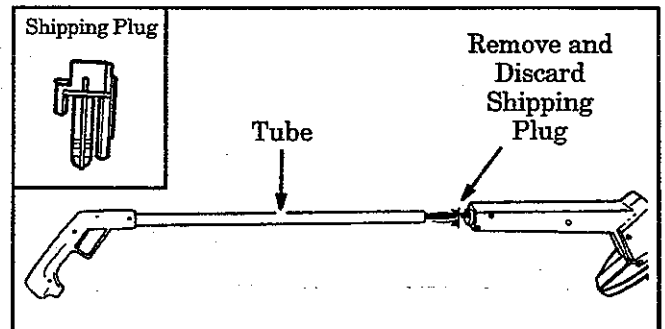

Figure 1
1. Remove and discard the shipping plug found in the end of the tube. Figure 1.